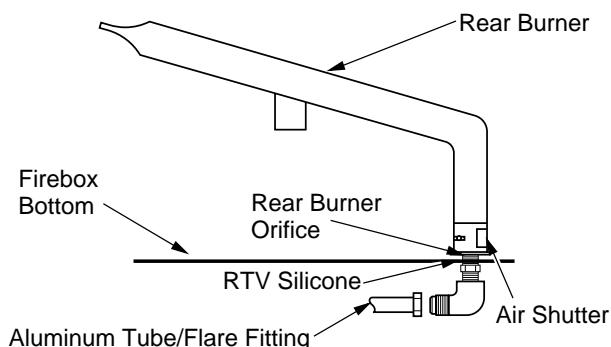
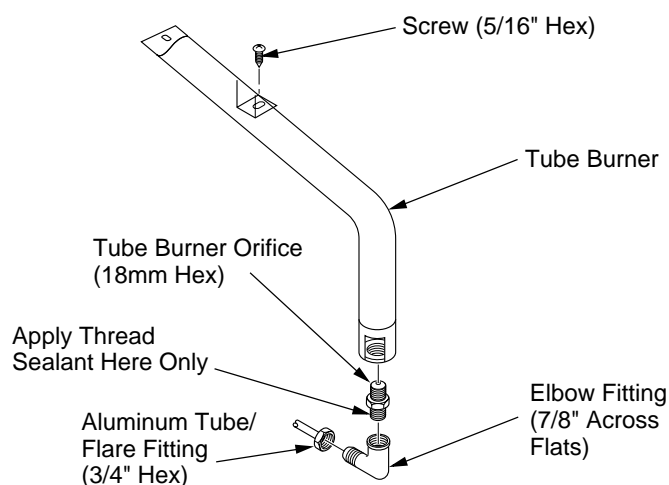

Figure 5 - Removing/Applying RTV Silicone and Locating Air Shutter
Figure 6 - Removing/Replacing Rear Burner Assembly
1. Inside the control compartment under firebox bottom, locate aluminum tube with flare fitting and brass elbow on the right side. Loosen flare fitting and disconnect aluminum tube from elbow fitting. Use a 3/4" open end wrench (see Figure 5).
2. Carefully cut away RTV silicone from the orifice where it passes through the firebox bottom (see Figure 5). Remove elbow fitting with orifice from burner inlet by turning counter-clockwise. Use a 7/8" open end wrench (see Figure 6, page 3).
3. Remove LP orifice from elbow. Apply a light amount of propane/LP resistant sealant to short threaded end of NG orifice (199) supplied in kit. Thread NG orifice into elbow.
4. Apply a light amount of propane/LP resistant sealant to long threaded end of orifice (see Figure 5). Thread elbow fitting with orifice into burner inlet and tighten by turning clockwise. Use a 7/8" open end wrench. Make sure flare end of elbow faces left.
5. Locate air shutter at end of tube burner (see Figure 5, page 2). Loosen screw and adjust air shutter to 3/16" open position. Retighten screw.
1. Apply RTV silicone to orifice where it passes through the firebox bottom (see Figure 5, page 2).